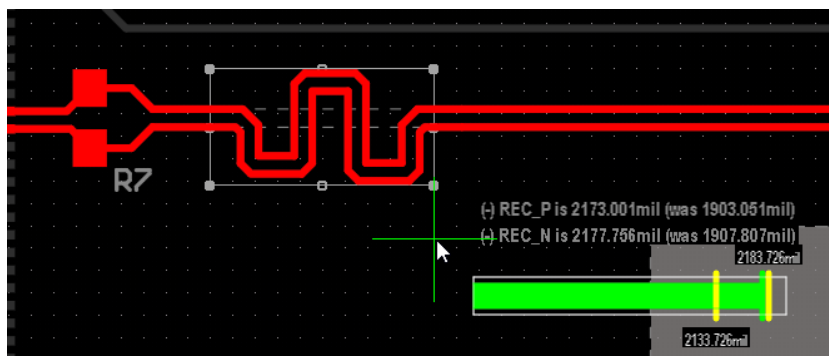

Figure 8. Length Gauge turns green when within tolerance
- 42. Accordions will be added by moving the mouse along the differential pair route until the length tuning gauge turns green. The gauge can be enabled or disabled using **Shift+G** during the tuning process, as shown in Figure 8.